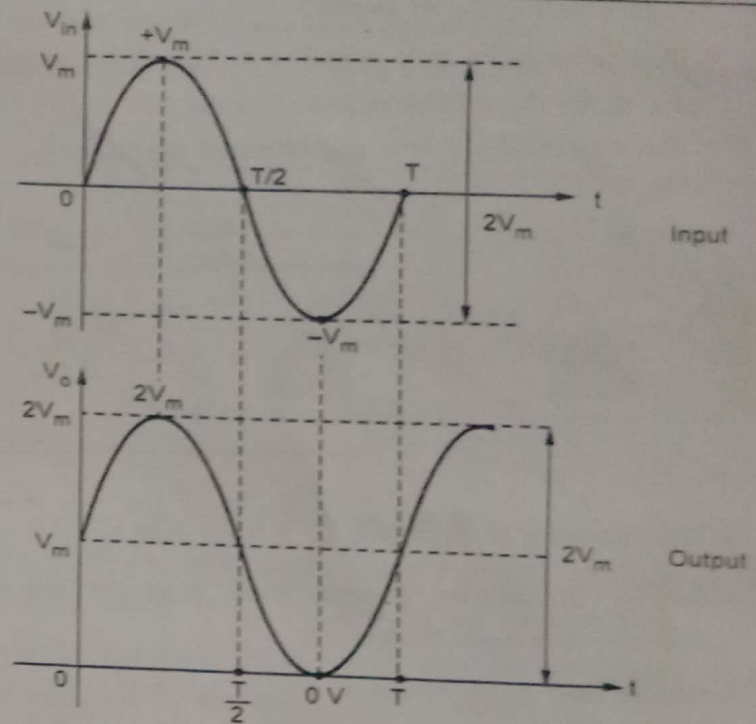

Fig. Q.50.4 Positive clamper waveforms
- Assuming ideal diode, the input and output waveforms are shown in the Fig. Q.50.4.